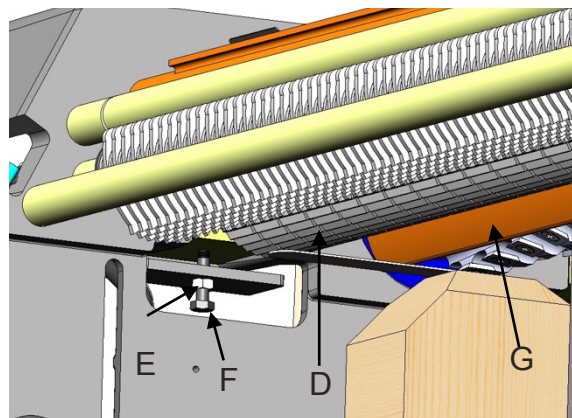

Fig. 18: Infeed Roller Adjustment
3. Remove feeler gauge and place wood block under the left side of infeed roller (Fig.18, D). The top of wood gauge should just contact the infeed roller. If it doesn't, loosen jam nut (Fig. 18, E) and turn the adjusting screw (Fig.18, F) to raise, or lower the infeed roller until it contacts wood gauge then tighten the nut (E). Repeat for opposite side of the infeed roller.